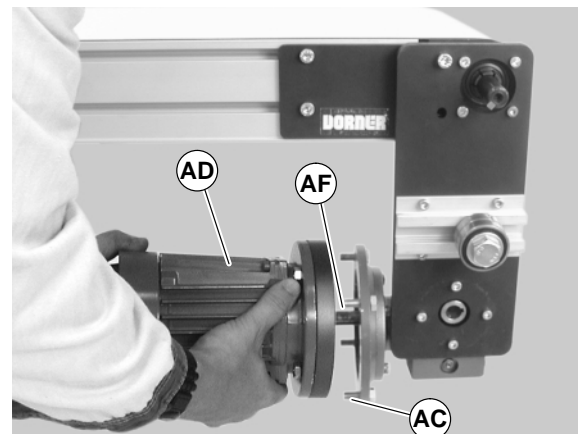

Figure 26
- With key (AF of Figure 26) in keyway, slide motor (AD) and gear reducer together. Install screws (AC) and tighten.